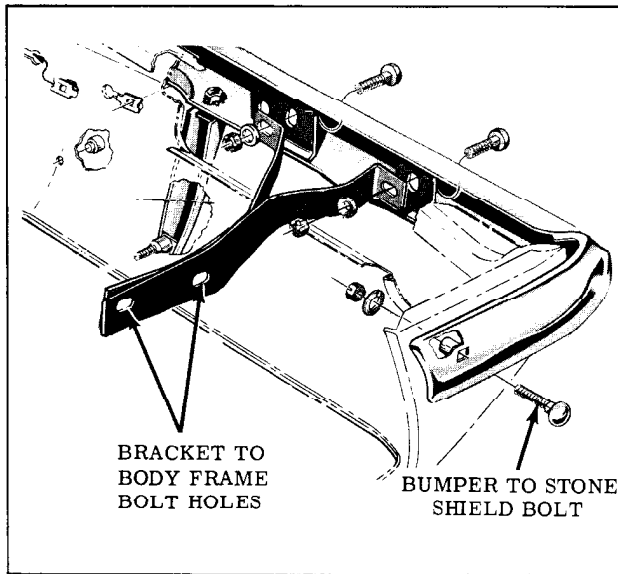

Fig. 11-19 Front Bumper Stone Shield
1. Remove 2 outer bumper to stone shield bolts, 4 bracket to body frame bolts and remove bumper. (Fig. 11-19)